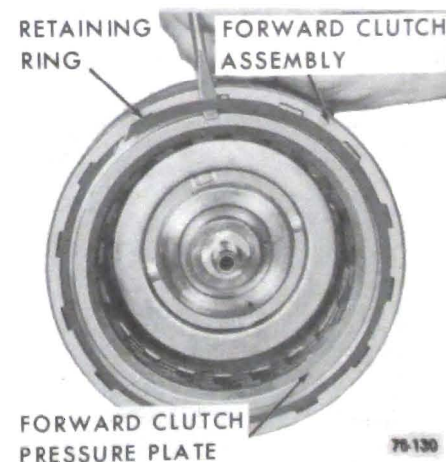

Figure 75-208
6. Install forward clutch pressure plate and retaining ring. See Figure 75-208.